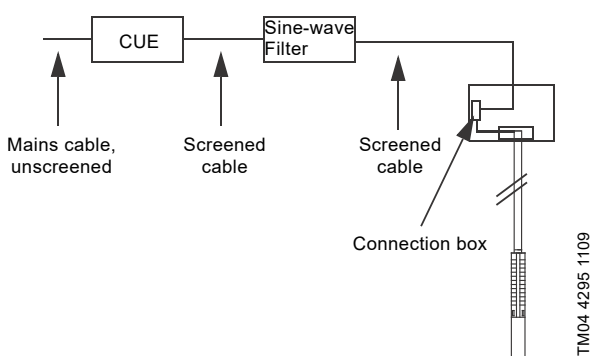

Fig. 15 Example of installation in EMC-sensitive sites
- installation in EMC-sensitive sites. See fig. 15.